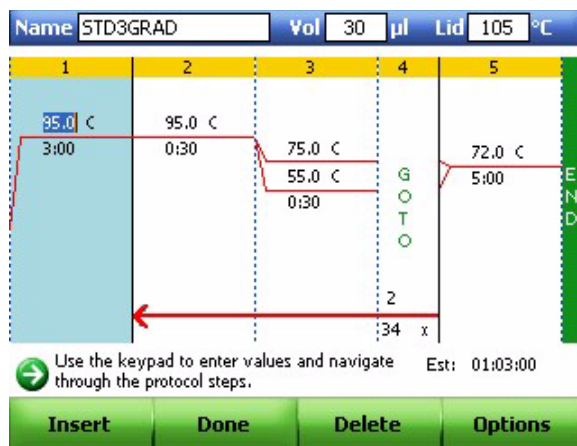

Figure 51. Press Done to start saving the protocol.
1. Select **Done** once the protocol has been edited and is ready to be saved (Figure 51).